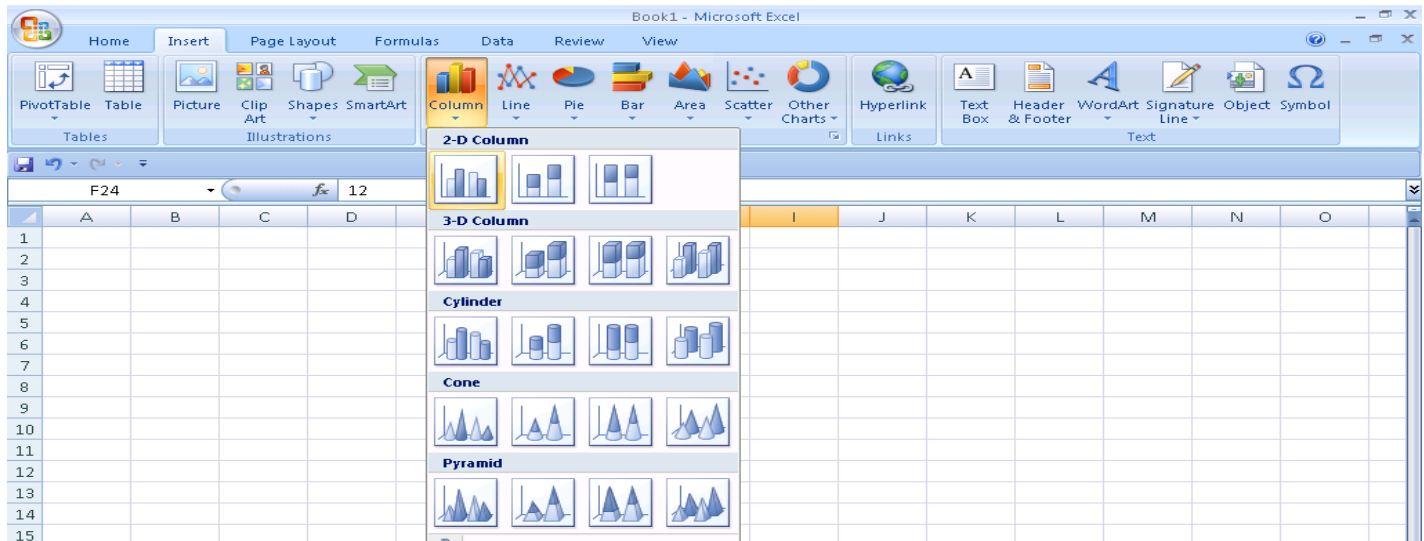

Figure-2
5.5 Click the “**Column**” icon and select “**2-D Column**” as per shown in **Figure-2**.
5.6 Choose the “**Clustered Column**” as per shown in **Figure-2**.